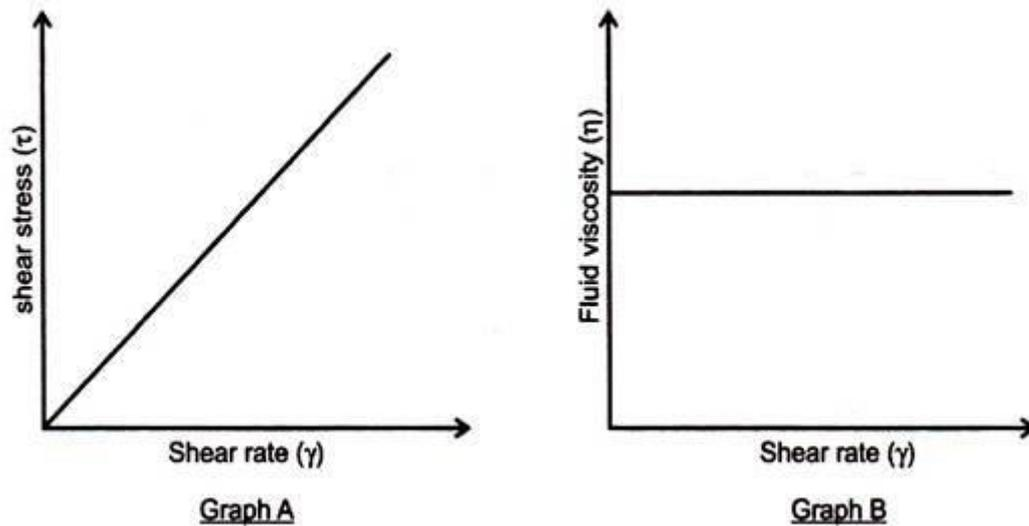

Fig. 9.1: Behavior of Newtonian fluids
These fluids are containing only low molecular weight compounds (e.g. water and sugars) and that do not contain large concentrations of dissolved polymers (pectins, proteins and starches) or insoluble solids (insoluble fibers). Examples of Newtonian fluids include water, sugar, syrup, honey, edible oils, filtered fruit juices, pasteurized milk and carbonated beverages. A Newtonian fluid is represented graphically in Fig. 9.1. Graph A shows that the relationship between shear stress (T) and shear rate ($\dot{\gamma}$) is a straight line. Graph B shows that the fluid's viscosity remains constant as the shear rate is varied.